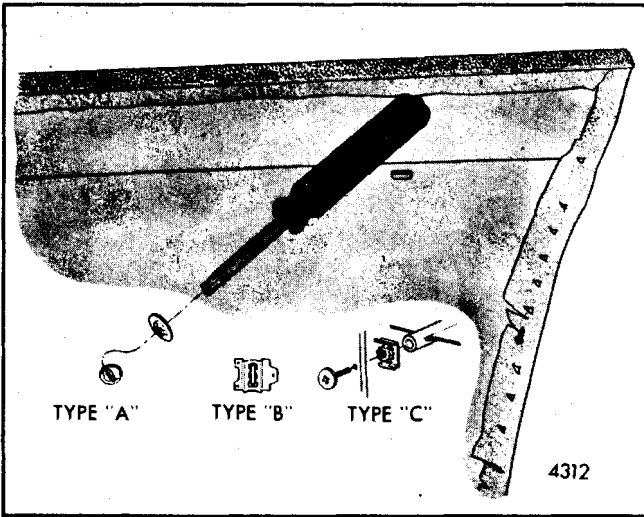

Fig. 13-15-Door Trim Pad Molding and Applique Removal
the outboard side of the door trim panel with several types of metal fasteners (Figure 13-15) or bend-over tabs.
2. For removal of type "A" fasteners, Figure 13-15, use tool J-23554 or equivalent.
3. To remove type "B" fasteners, Figure 13-15, carefully pry-up on fastener until there is sufficient working space to insert wire cutter; then, cut fastener and discard.
4. For removal of type "C" fasteners, Figure 13-15, use a cross head type screwdriver.